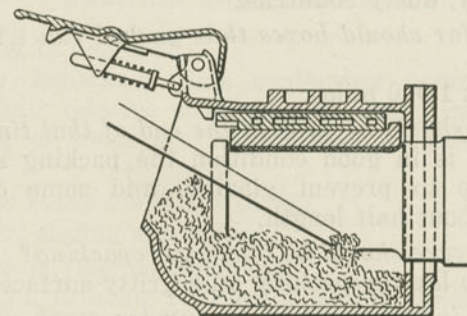

Fig. 259. Improper Packing.
A. Irregular lubrication; possible heating of the journal at the rear. (Fig. 259.)